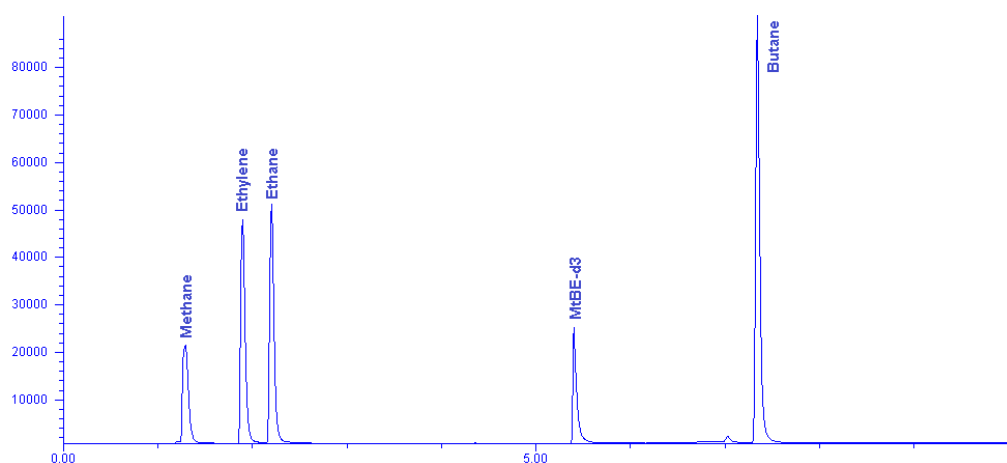

Figure 2: 500ppm Mixed Gas Standard Chromatogram
Deuterated methyl tert-butyl ether (MtBE-d3) was chosen as the Internal Standard (IS) and added to the IS vessel on the LGX50. The mixed gas standards were loaded in the sample tray of the LGX50. Ten milliliters of DI water was then transferred to the sample vial along with the IS in order to make a total water volume of 20mls. After a curve was established a series of seven replicate 10ppm mixed gas standards were run in order to establish method detection limits for the method. Next, a series seven of 500ppm standards were run in order to determine the precision and accuracy of the method. The mixed gas experimental results are listed in Table 4. Figure 2 displays a sample chromatogram of a 500ppm mixed gas standard.